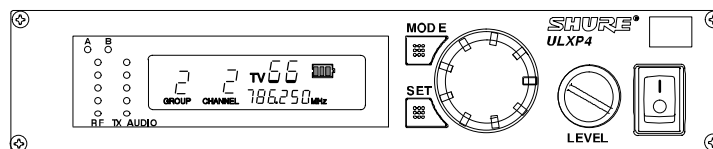

FIGURE 38
3. When all Groups have been scanned, the Group with the most open Channels will appear on the display, as shown in Figure 38.